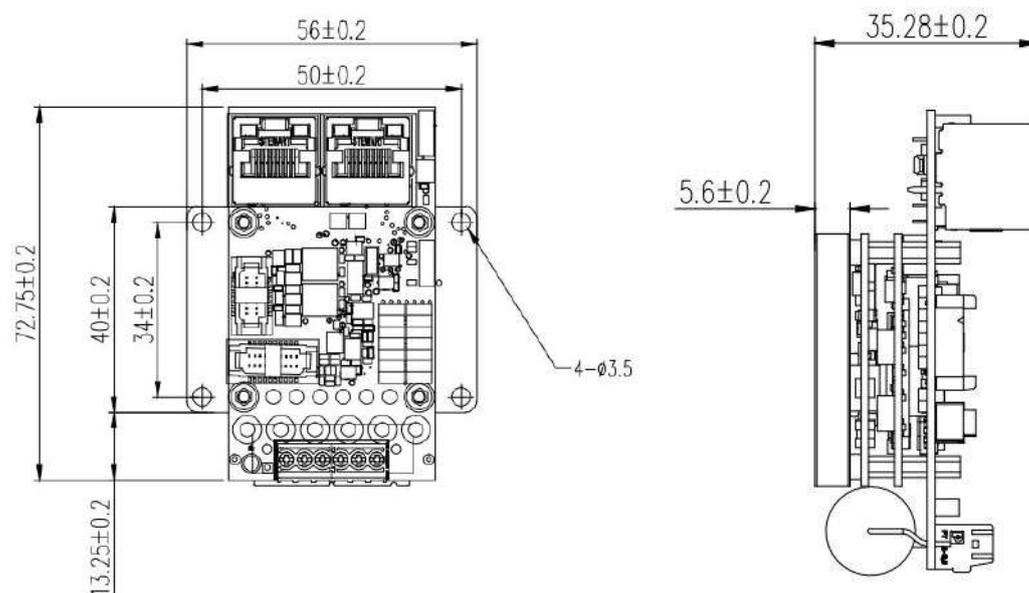

Figure 2-1 Drive mechanical dimension drawing Unit mm
① Panel Mount
- 1) Mark the Position of the screw hole on the back of the mounting plate, and refer to Figure 2-1 for the hole spacing, the heat sink hole specification is $\Phi 3.5$ through hole.